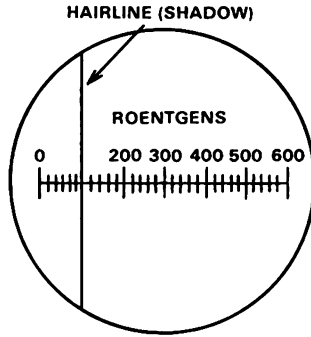

Figure 2.
- c. Read the value on the scale covered by the hairline (figure 2).